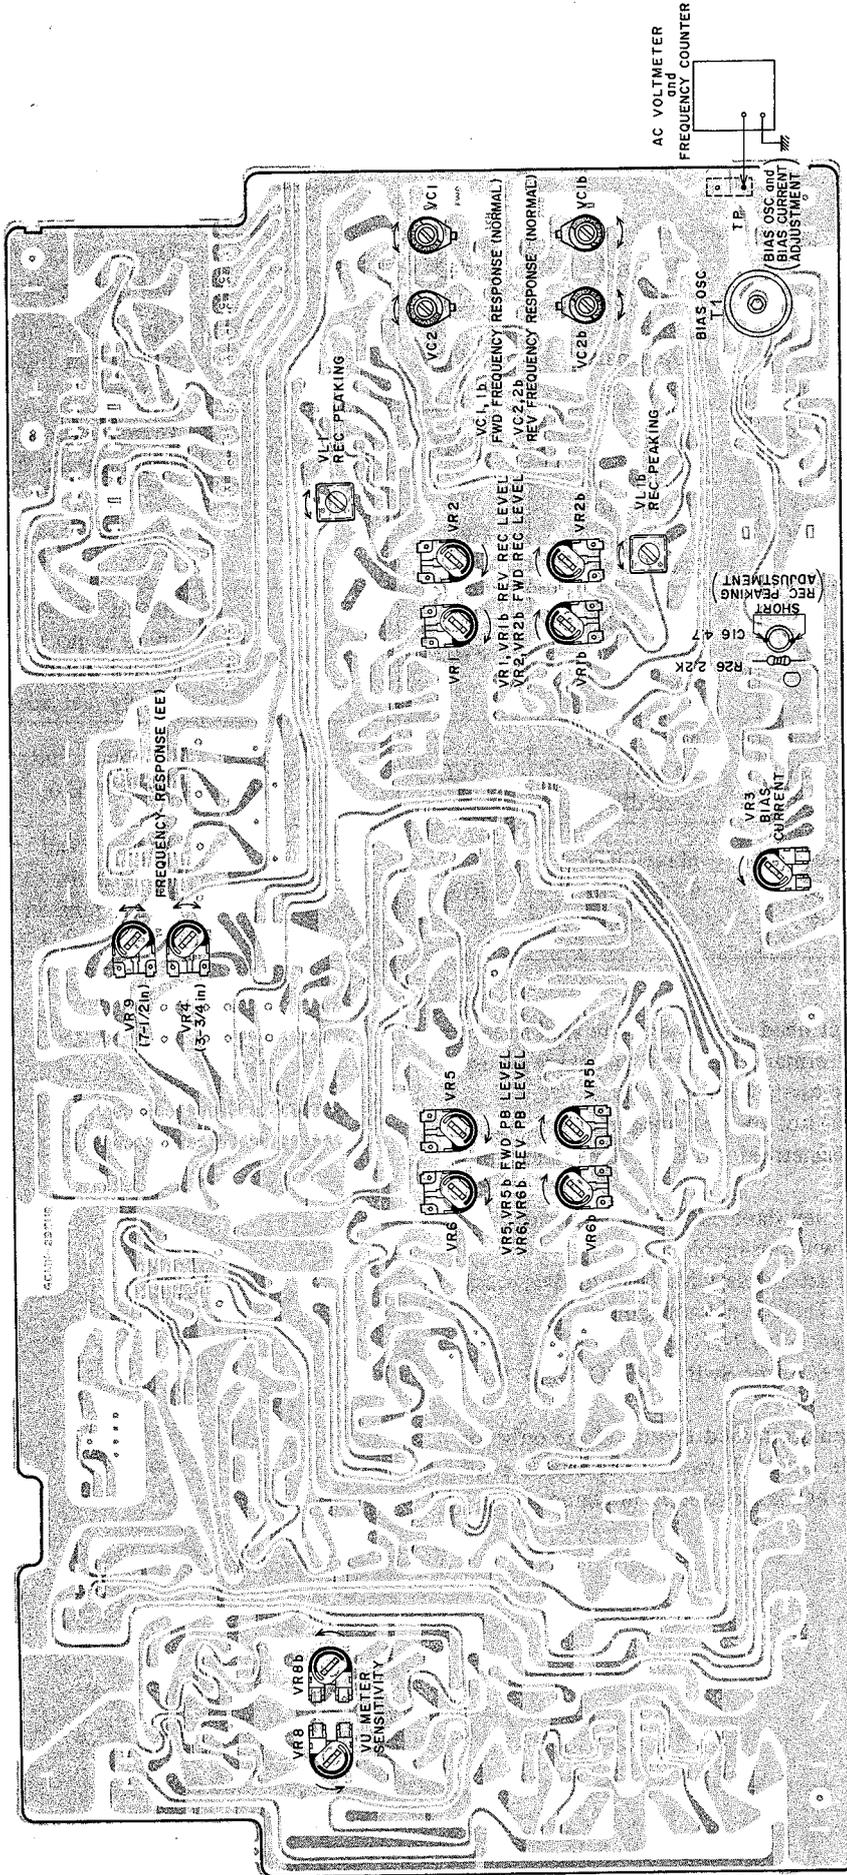

Fig. 16 Pre Amp P.C Board T1009A510A
| 3 | REC Peaking | 23.2 kHz from an Oscillator | REC | VL1 1 mH | Maximum AC Voltmeter indication | Set TAPE SELECTOR to "NORMAL" Tape Speed 3-3/4 ips. See NOTE 6, 7, 9 and Figs. 16, 17, 18. |
| 4 | BIAS OSC | | REC | T1 | 100 ± 0.5 kHz | Set TAPE SELECTOR to "NORMAL" Tape Speed 7-1/2 ips. Connect a Frequency Counter between TP and GND. Fig. 16. |
| 5 | BIAS Current | | REC | VR3 20 kB | 135.6 ± 0.5 mV | Set TAPE SELECTOR to "NORMAL" Tape Speed 7-1/2 ips. Connect a AC Voltmeter between TP and GND Fig. 16. |
6. Stop Recording bias oscillator while making Rec Peaking adjustment (Refer to Fig. 16).